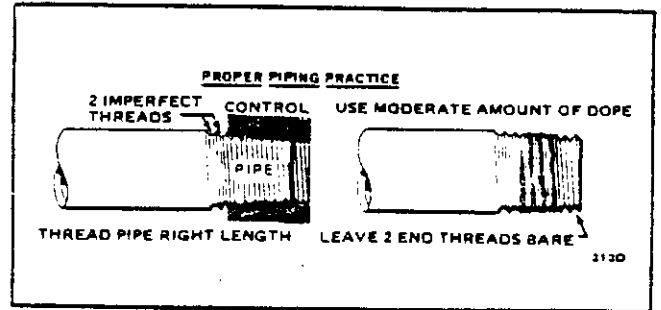

FIGURE 8 - GAS PIPE SIZES -- NATURAL GAS
8. Refer to Figure 8 for Gas Pipe sizes for natural gas. If more than one appliance is supplied from a single line size, capacity must equal or exceed the combined input to all appliances, and the branch lines feeding the individual appliances properly sized for each input.